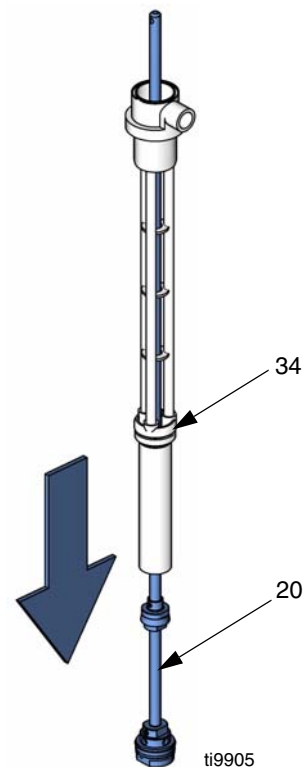

FIG. 19
7. Pull transfer shaft (20) out the bottom of pump body (34). See FIG. 19.